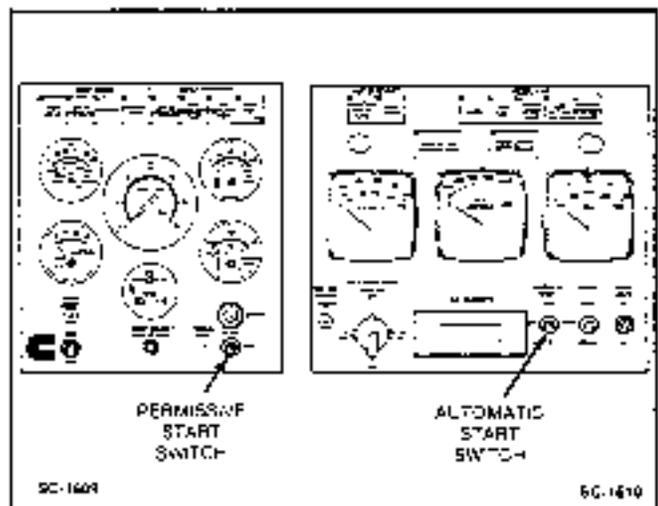

FIGURE 2-6. STOPPING SET AT CONTROL PANEL
- If the set was started manually at the set Engine Control Panel, place the Manual Start—Permissive Start switch to OFF position. See Figure 2-6.
- If the set was started at a remote control panel, place the remote starting switch to the Stop or Off position or place the Automatic Start switch at OFF position, then return the switch to AUTO position to enable the next remote start signal. See Figure 2-6.